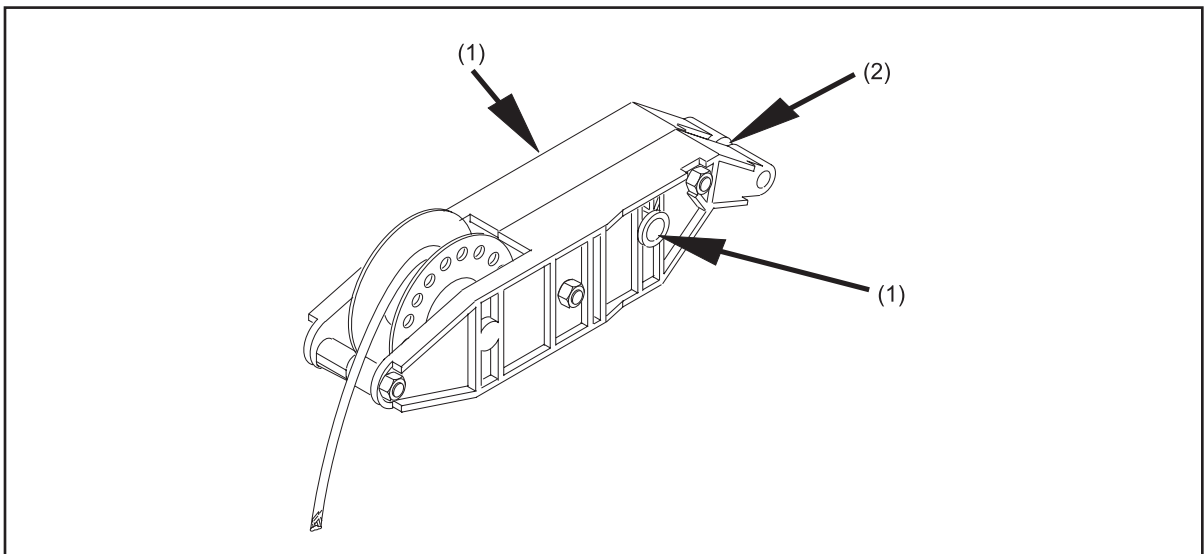

Figure 5-10. Grease String Lever With Paint Brush
- Apply grease to the string lever with a paint brush. Refer to *Figure 5-10*.
- Apply a drop of oil on each side of the string lever. Refer to *Figure 5-10*.